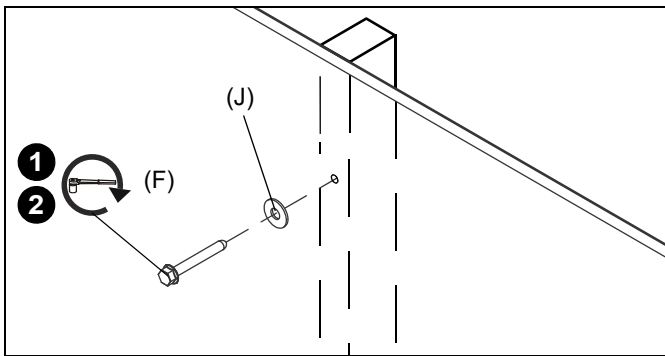

Figure 18
1. Use one 5/16" x 2-1/2" hex flange head lag bolt (F) and one 5/16" washer (J) through product and into pilot hole. (See Figure 18)